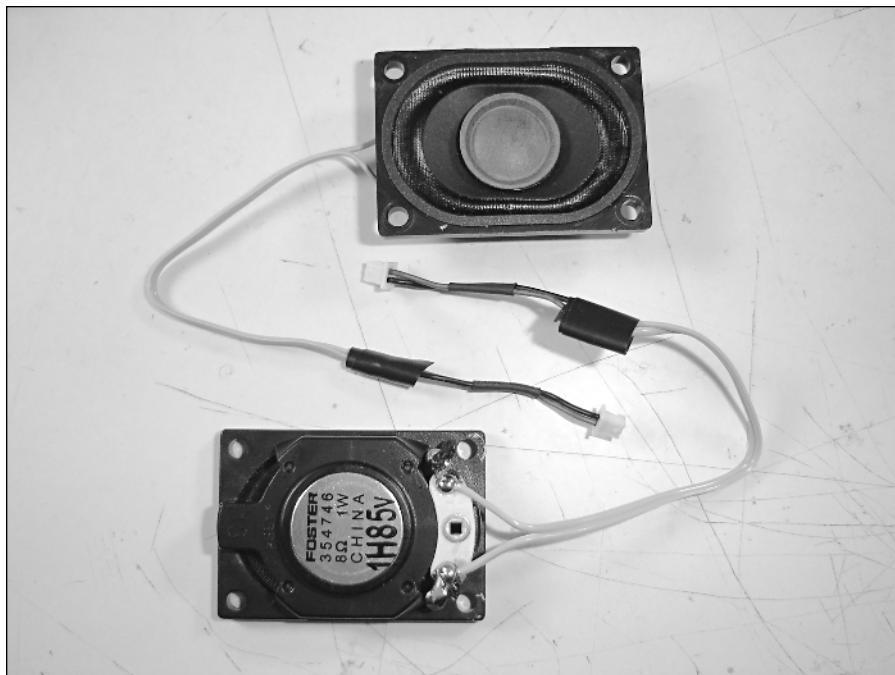

FIGURE 10-20: The PSOne speakers with new, longer plug wires.
3. We can now move onto the screen and speakers. Desolder the wires off both speakers and extend the plugs by about 2", as shown in Figure 10-20.